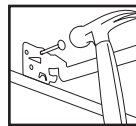

Figure 3
Step 1. Extend bar hangers to fit between joists. Bar hanger foot is contoured to easily align with bottom of joist (Fig. 2). Position fixture by hammering Real-Nails[®] into joists (Fig. 3).